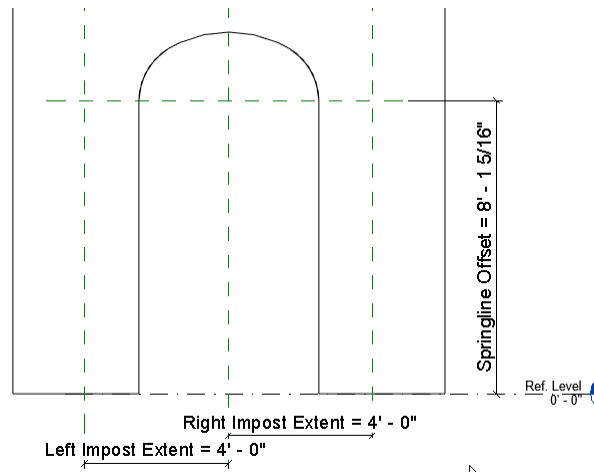

Figure 55—Add reference planes and parameters
6. Repeat on the left side creating a reference plane and parameter called: **Left Impost Extent** (see Figure 55).